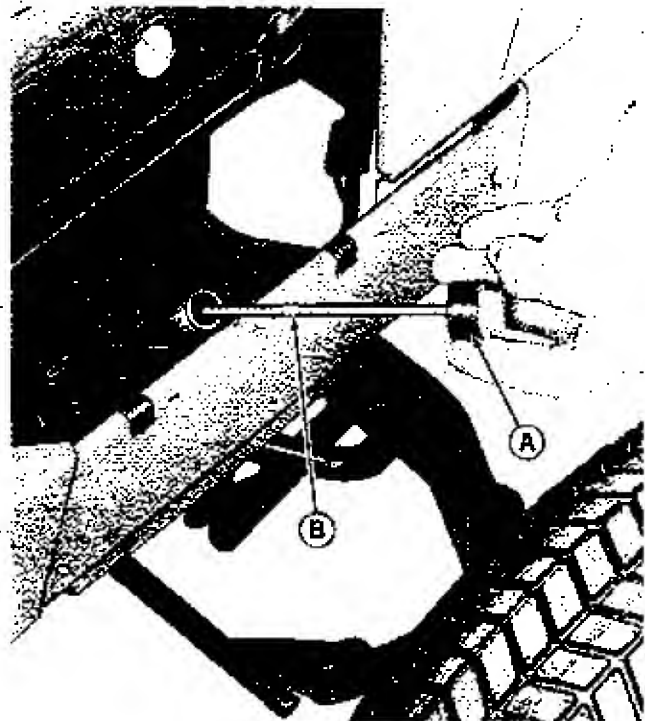

Figure 19. Checking the engine oil at right front of tractor.
CHECK ENGINE CRANKCASE OIL LEVEL: See figure 19. If the engine has been running, allow a minute or two for the oil to drain down into the crankcase before checking the oil level. Proceed as follows:
1. See figure 19. Turn the engine oil filler cap-dipstick (A) counter-clockwise and lift it out.
5. If the oil is below the full line (B) shown in figure 19, add enough oil to bring the oil level up to the full mark. Use the same grade and weight of oil which is already in the
4. See figure 19. Remove the filler cap-dipstick (A) and pour 2 quarts of oil into the engine through the oil filler pipe, being careful not to allow any dirt or foreign material to contaminate the oil.
5. Check the oil level. It should show up to the full mark (B) on the dipstick.